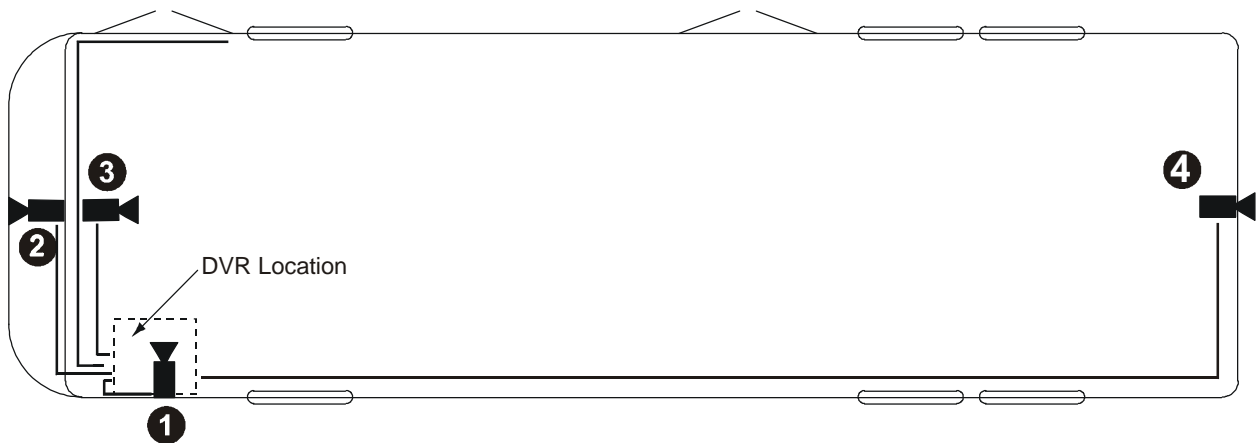

Figure 3. Typical camera cabling layout
- 1) Route cables from each camera location to the DVR location as determined by your customer-specific system layout. Figure 3 shows an example system layout.